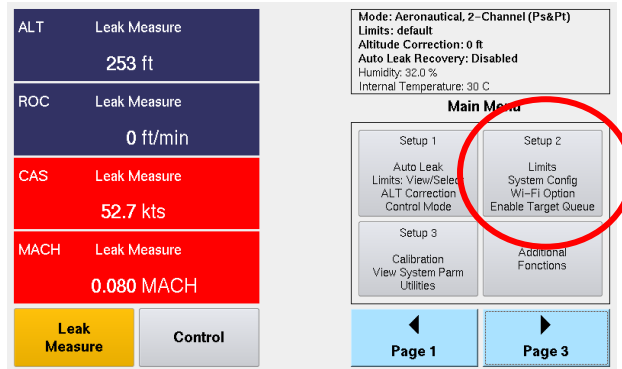

Figure 3 Main Menu Page 2
4. Touch Setup 2 (Fig. 3). A keypad screen appears.